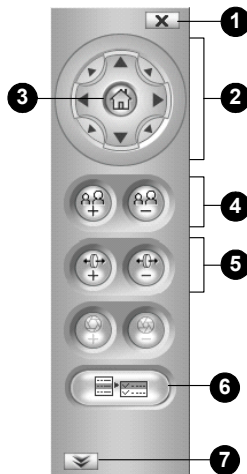

Figure 12-15
On initial installation, it is advised that you adjust the focus for image clarity. Print out the diagram of radiating lines included on Software DVD and hang up the diagram at the surveillance area. Use the **Zoom In / Out** and **Focus In / Out** buttons on the PTZ control panel from the Web interface (No.4 and 5, Figure 12-15) and adjust the PTZ Camera until it displays clear radiating lines as shown in picture on the left.
When the camera view is fuzzy, you may use the auto focus feature to obtain a sharper view. On the PTZ control panel, click the **Option** button (No. 6, Figure 12-15) and select **AF** for automatic focus.
To access PTZ camera settings, click the **Option** button (No. 6, Figure 12-15) on the PTZ control panel and select **Setup**. The setup dialog box appears.
The VISCA OSD Configuration contains three groups of settings: image settings, PTZ settings and system configuration. To access these settings, click the **Option** button (No.6, Figure 12-15), select **Setup** and click **Open**. The dialog box appears. Alternatively, you can click **Digital I / O and PTZ** on the Web interface and select **PTZ Setting**.
- 1 Use one of the **Pan / Tilt Control** buttons (No. 2, Figure 12-15) to move the camera to a desired point in live view.
- 2 To save this Preset point, click the **Option** button (No. 6, Figure 12-15), select **Preset Set** and select the desired Preset number
- 1 Click the **Option** button (No. 6, Figure 12-15), select **Preset Set** and select **Naming**. The dialog box appears.
To start a Preset movement, click the **Option** button (No. 6, Figure 12-15), select **Preset Go**, and select a **Preset** number which has been set previously.
- 1 Click the **Show Preset** button (No. 7, Figure 12-15) to open the number pad.
To stop a Preset movement, click the **Home** button (No. 3, Figure 12-15) or click one of the **Pan / Tilt Control** button (No. 2, Figure 12-15).
To start a Sequence, click the **Option** button (No. 6, Figure 12-15) select **Auto** and select a **Go Sequence** number which you have set previously.
To stop a Sequence, click on a **Pan / Tilt Control** button (No. 2, Figure 12-15) or the **Home** button (No. 3, Figure 12-15).
- 2 On the control panel, click the **Option** button (No. 6, Figure 12-15), select **Auto** and select a **Set Auto Pan** number.
- 4 Click the **Option** button (No. 6, Figure 12-15), select **Auto** and select an **End Auto Pan** number to save this configuration.